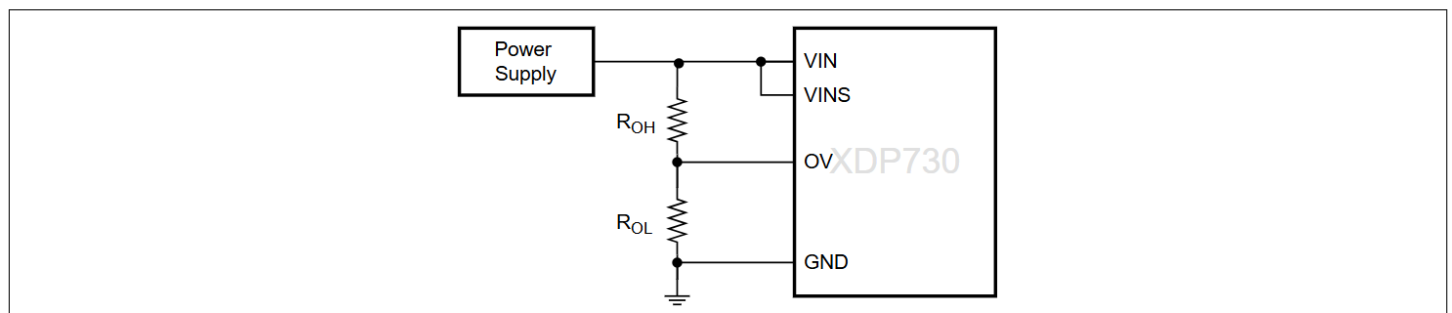

Figure 7 Input overvoltage protection
Similar to input undervoltage, the XDP730 has input overvoltage protection for monitoring the maximum input voltage. By default, the input overvoltage is configured to sense the voltage at the VINS pin using a digital comparator. When the VINS voltage rises to/above the digitally programmed limit, the input overvoltage protection (OV) is triggered. If needed, the device can be configured to use an analog comparator at the OV pin for faster response. When the OV pin voltage rises to/above V_{OV_UTH} , the input overvoltage protection is triggered. The equation below can be used to calculate the values of the resistor divider network at the OV pin as shown in Figure 7. At a given time, the input overvoltage can be configured to use either the digital comparator or the analog comparator.